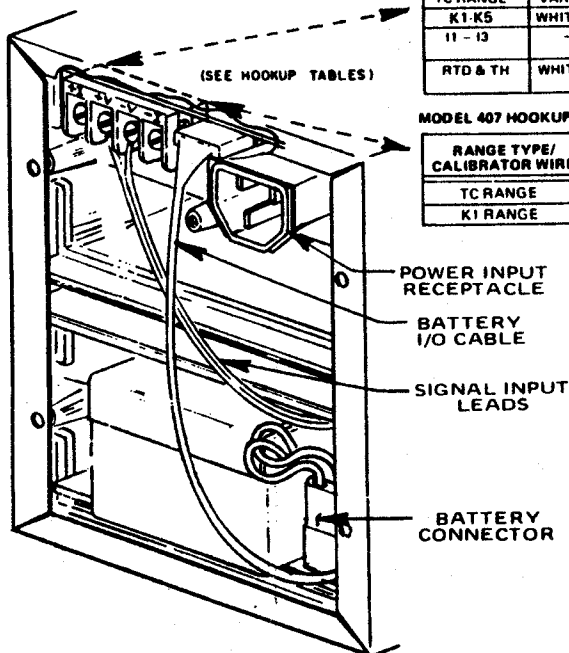

FIGURE 2-9. INDICATOR INSTALLATION IN A POWER PACK CASE
d. Connect the battery I/O cable from the Power Pack board to P2 on the indicator as shown in Figure 2-9 (paint stripe visible on connector plug when connected).
e. Connect the front panel binding posts (from BEHIND the panel) to the rear input terminals of the indicator in parallel, using appropriate lengths of twisted pair wire (voltage, current, RTD, thermistor ranges) or thermocouple extension wire (thermocouple ranges). See Figure 2-9 for the correct polarity of various applications.
f. Plug the battery connector into the battery board as shown in Figure 2-9.